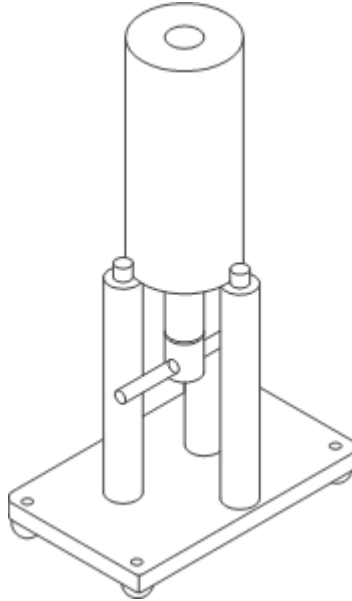

Figure 13
2. Assemble the Cell Table Stand (see Figure 13).
2. Set the cell on the filling stand and remove the closure plug (see Figure 13).